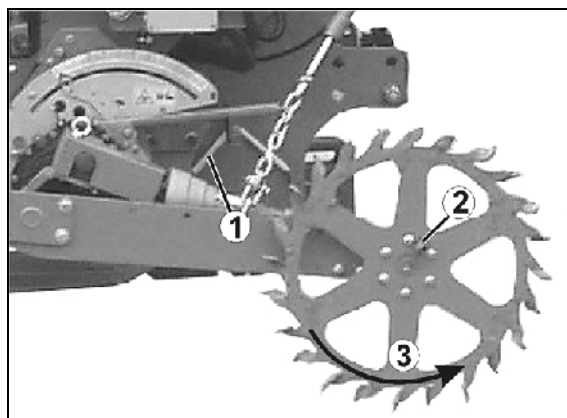

Fig. 83
- Take the calibration crank (Fig. 83/1).
- Use square end neck (Fig. 83/2) to push the calibration crank on to the star wheel (Fig. 83/3).
Turn the star wheel in left direction (Fig. 83).
- place the calibration crank (Fig. 83/1) back into the retainer